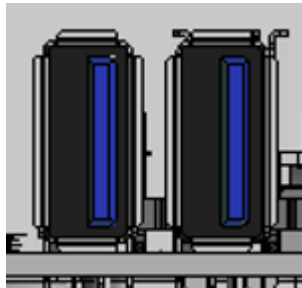

Figure 3-32: USB 3.2 Gen2 Connectors (Type-A)
- CN Location:** See Figure 3-32